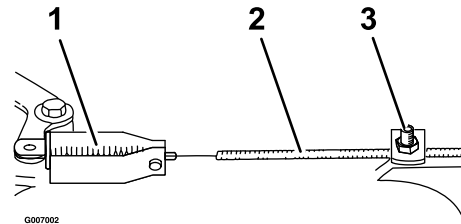

Figure 31
1. Loosen the cable clamp screw until the cable conduit slides (see Figure 31).
1. Loosen the nut on the cable bracket (see Figure 31).
1. Loosen the jam nut on the blade brake cable clamp (see Figure 31).